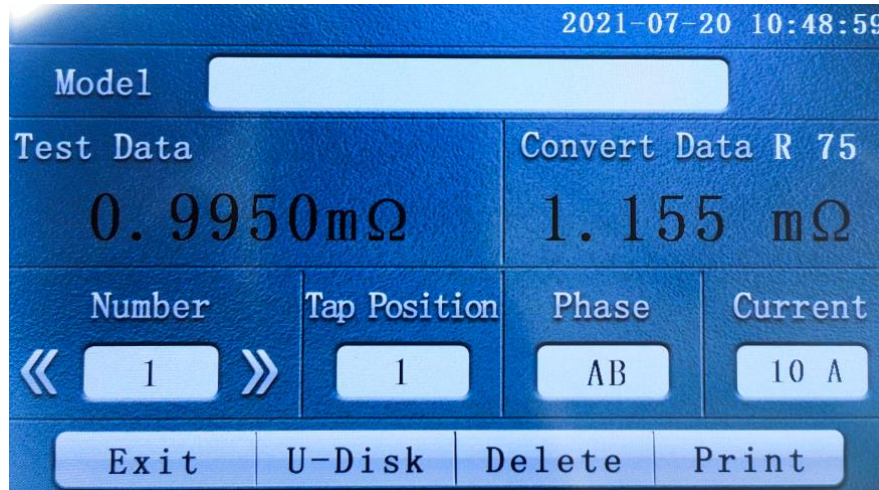

Figure 9
4. Click **Data** in Figure 6 to enter the data view interface, as shown in Figure 9: